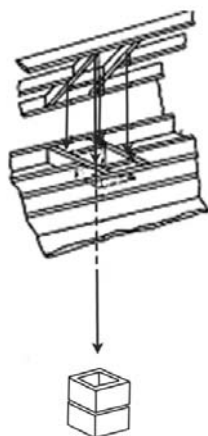

Figure 22. Roof Penetration
F. Measure to all sides of the nail and mark the required opening, and then cut a hole in the roof. Remember that the hole is measured on the horizontal, and then projected to the roof. The hole may then be larger, depending on the pitch of the roof. See Figure 22.
E. Measure to all sides of the nail and mark the required opening, and then cut a hole in the roof. Remember that the hole is measured on the horizontal, and then projected to the roof. The hole may then be larger, depending on the pitch of the roof. See Figure 22.